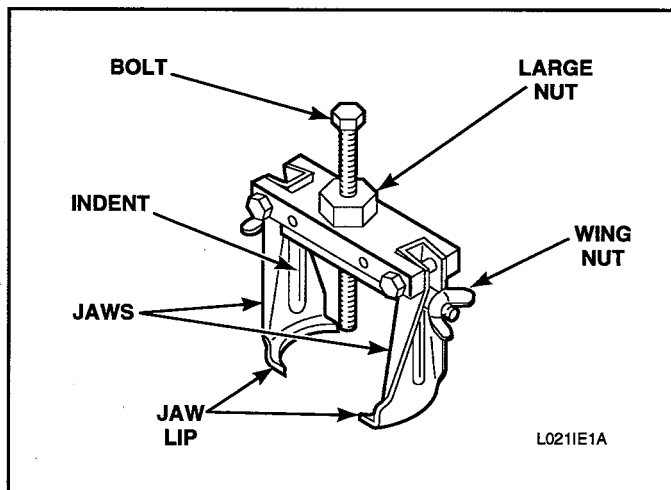

Figure 5-12
- Back bolt out of 294P4 Drive Bell Tool approximately three quarters of the way. See Figure 5-12.